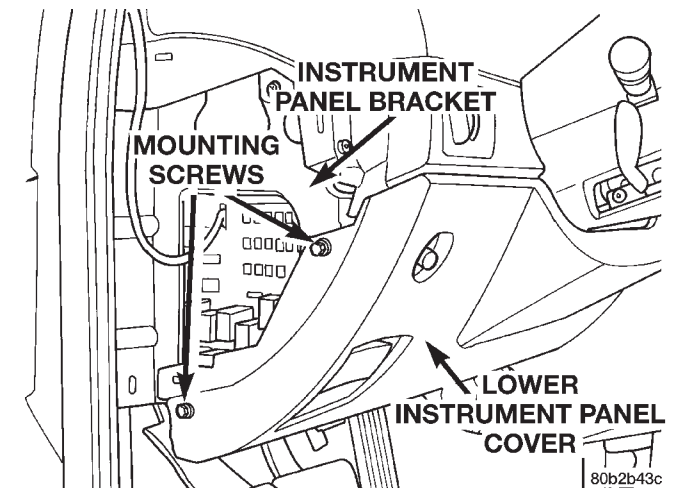

Fig. 4 Lower Instrument Panel Cover Mounting Screws
(3) Remove the 2 screws behind the fuse panel cover, (Fig. 4) attaching the lower instrument panel cover to the instrument panel mounting bracket.
(4) Remove the lower instrument panel cover. The lower instrument panel cover is attached by retaining clips along the top and right edge.